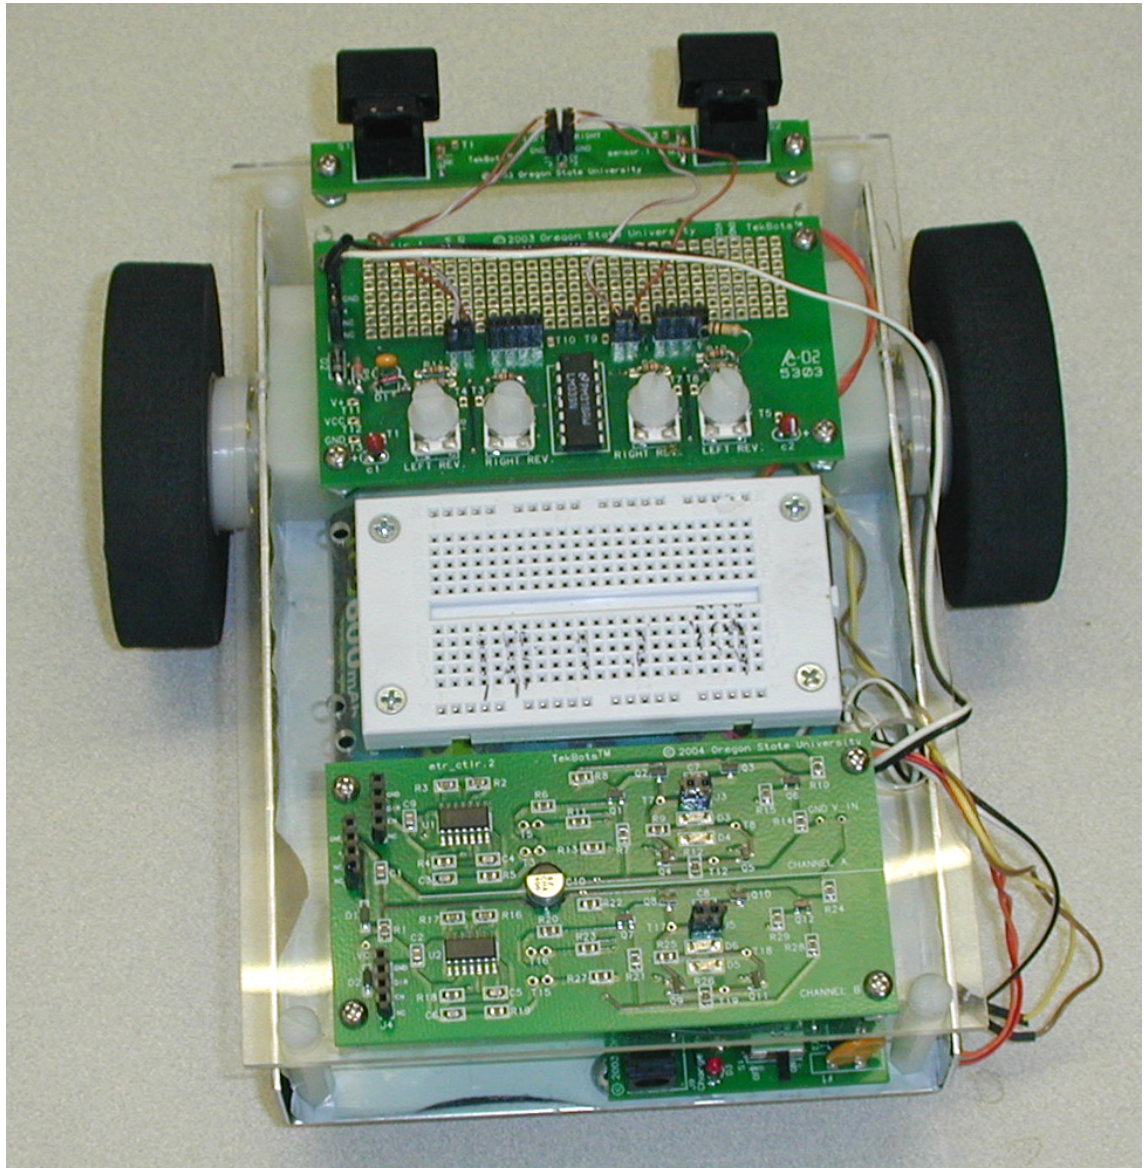

Figure 7. Motor Control Board and Breadboard
- Use Figure 7 to Determine Mounting Location. Use the ½” Hole as reference
5. Now you can affix the breadboard to your robot. Use the 4-40 5/8” metal machine bolts, and force them through the holes in the breadboard. This then attaches to the Plexiglas layer in your kits. See Figure 7 for placement.
7. The Plexiglas layer attaches to the base of your robot using 8-32 Nylon bolts and the nylon standoffs. Bring the wires from the motors and the power cable through the hole in the Plexiglas. Figure 7 shows the placement of the breadboard and motor control board on the Plexiglas.